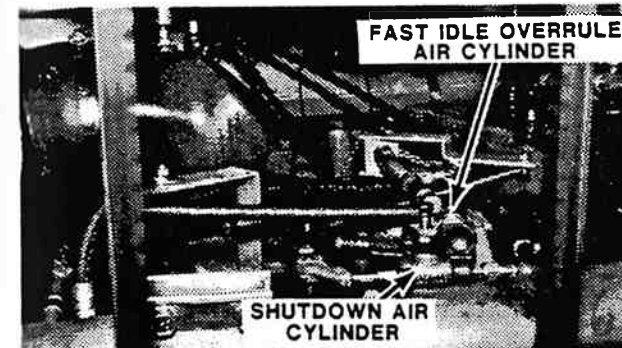

Figure 8-12. Engine Control System.
1. Mount valves and air cylinders as shown in figure 8-12.